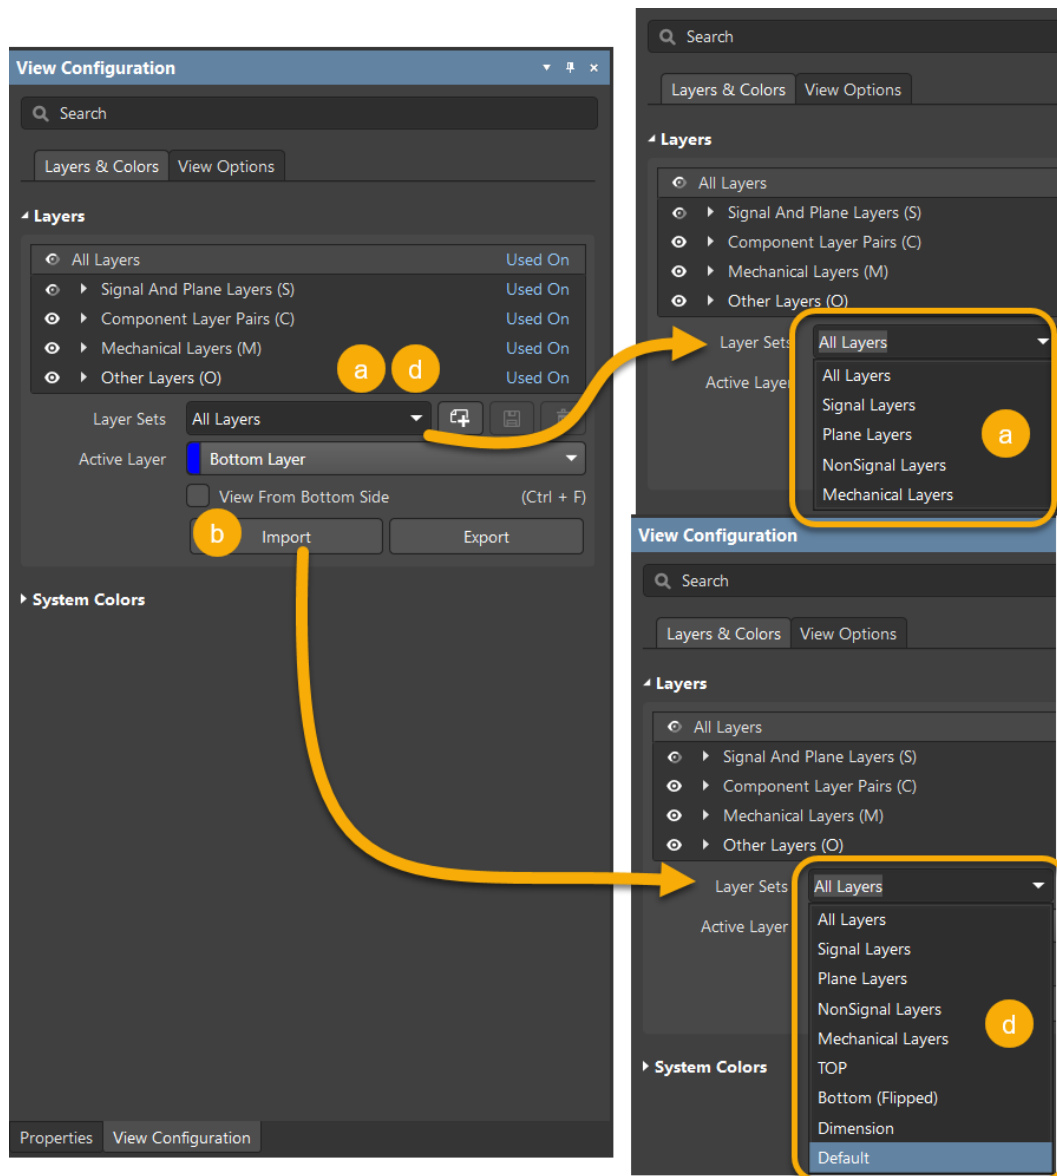

Figure 4. Load predefined Layer Sets
24. Still in the *View Configuration* panel, Figure 4:
- Select the drop down list again to see the current Layer Sets or use the button **Layer Set (LS)**  at the lower left side of the PCB Workspace.